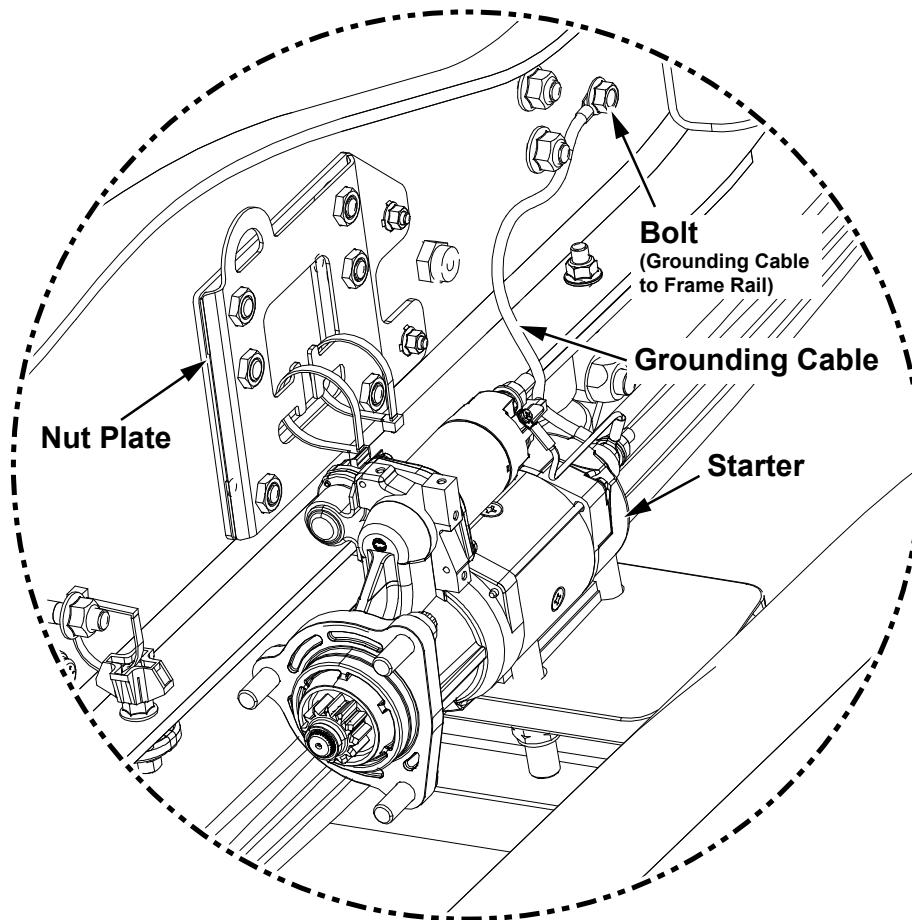

Figure 5
10. Install the S8721017-002 grounding cable to the starter and reinstall the bolt and nut set aside in step 8 (see *Figure 5*).